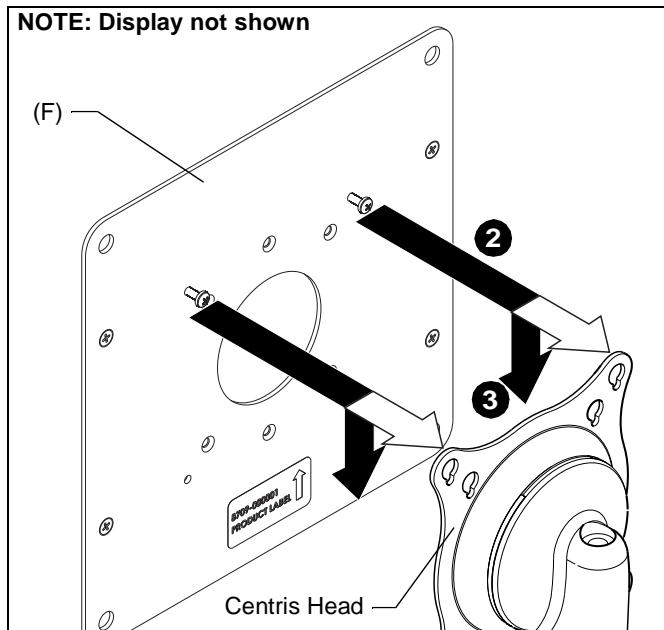

Figure 7
2. Align two mounting screws with upper teardrop mounting holes in Centris head. (See Figure 7)
3. Insert two upper mounting screws into upper teardrop mounting holes in Centris head, and lower display until mounting screws are fully seated in lower area of teardrop mounting holes. (See Figure 7)